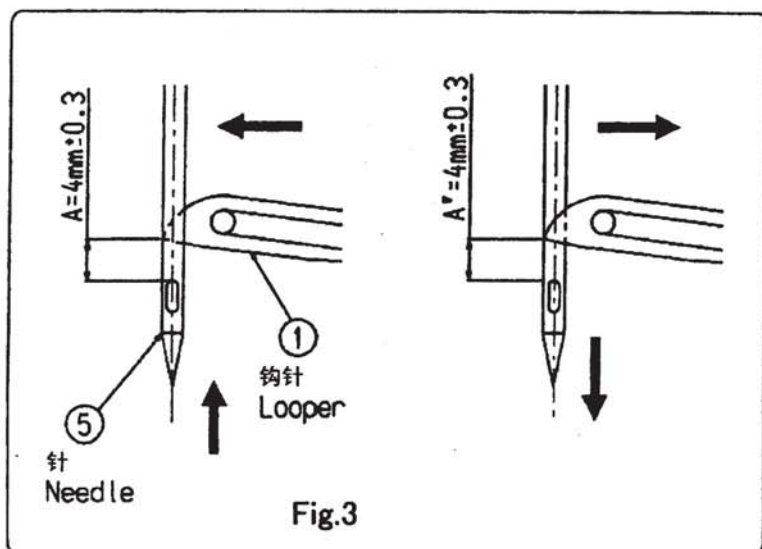
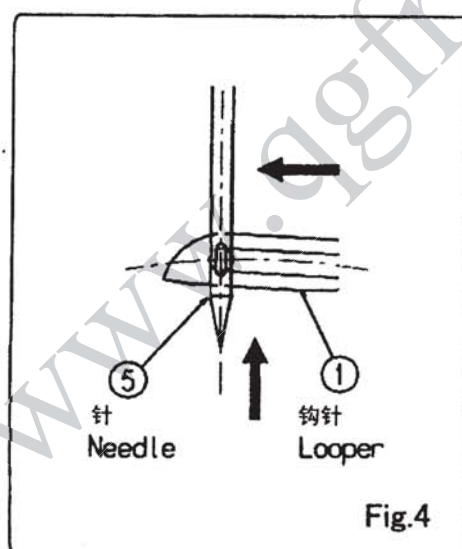

Fig.3
Fig.4
Needle ⑤ and looper ① movements are correctly timed if distance (A and A' of Fig.3) between Loper point and Needle hole when Loper point gets in line with left-side edge of Needle ⑤ is the same as Loper ① passes Needle in forward and backward movements. $A = A' \pm 0.3\text{mm}$ is allowable. To adjust loosen screw, (a) of Fig.2, and turn Eccentric Ball (c) of Loper Bell Crank Connection Rod ② as appropriate. Loper eyelet should overlap with lower part of long hole of Needle, as shown in Fig.4 as Loper goes forward. To adjust, move Needle Bar ⑩ vertically after loosening screws (a) and (b) of Fig.5 for Needle Bar Connection ⑥ and Needle Thread Take-Up ⑦. Firmly set screws after adjustment.
钩针①向左或向右转动时, 缝针⑤的左侧面与钩针前端一致时, 如图所示Fig.3。钩针①前端到针孔的尺寸 $A=A'$ 时, 缝针与钩针同步。 $A=A' \pm 0.3\text{mm}$ 为允许范围。钩针与缝针同步以及允许访问未达到时, Fig.2的螺丝松开, 转动钩针连杆②的变心球来调整。然后钩针①前进时, 对于钩针与针孔是否一致, 如图所示Fig.4, 调整针棒⑩与钩针孔, 针棒⑩上下调整, 如图Fig.5, 松开针棒座⑥和上线线导⑦的螺丝来调整, 调整后锁紧螺丝。